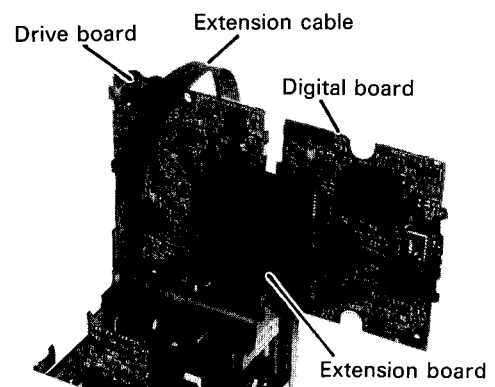

Fig. 2-5
- Referring to Fig. 2-5, connect the Drive Board and Digital Board by the Extension Board.